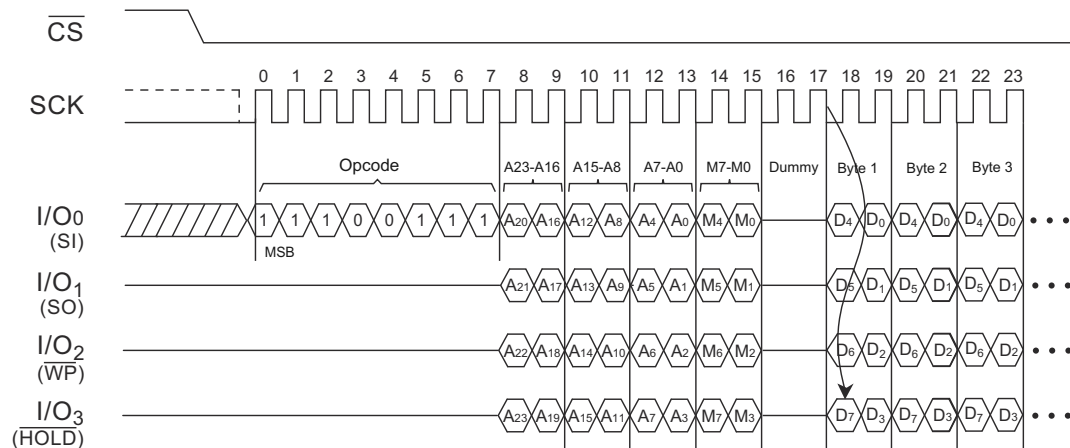

Figure 7-10. Quad I/O Word Fast Read Timing (Initial Command Set M5, M4 ≠ 1,0) SPI Mode
The Quad I/O Word Fast Read instruction is similar to the Quad Fast Read instruction, except that the lowest address bit (A0) must equal 0 and have two dummy clock cycles. Figure 7-10 shows the instruction sequence; the first byte addressed can be at any location. The address is automatically incremented to the next higher address after each byte of data is shifted out. The Quad Enable bit (QE) of the Status Register (S9) must be set to enable.